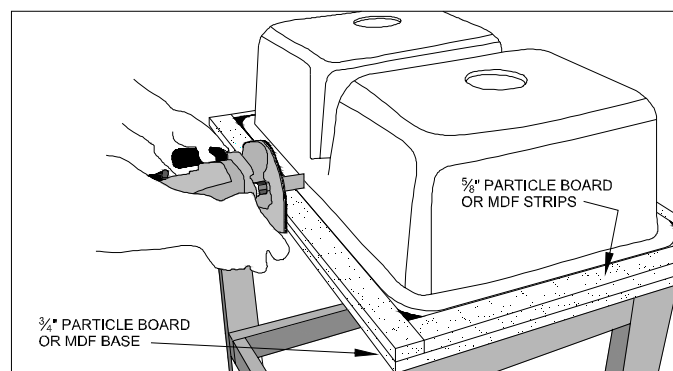

Figure 2C
- Place on a well supported work surface and with a router and a top bearing flush trim bit, machine the excess flange. (FIG. 2C)